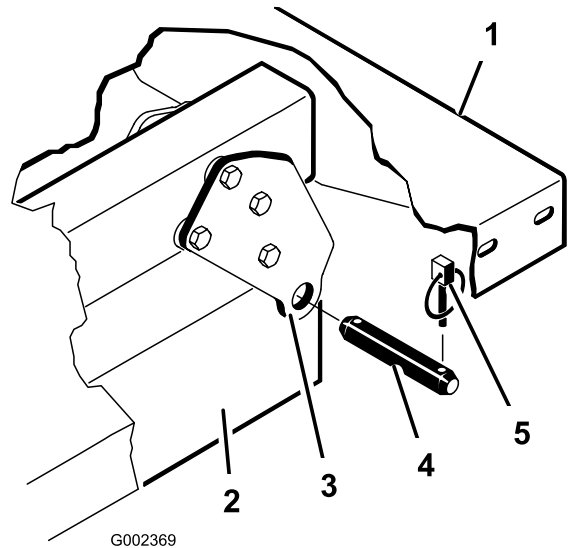

Figure 26
2. Remove the lynch pins and clevis pins securing the pivot brackets to the frame channels (Figure 26).
frame channel and install 2 clevis pins and lynch pins (Figure 26).